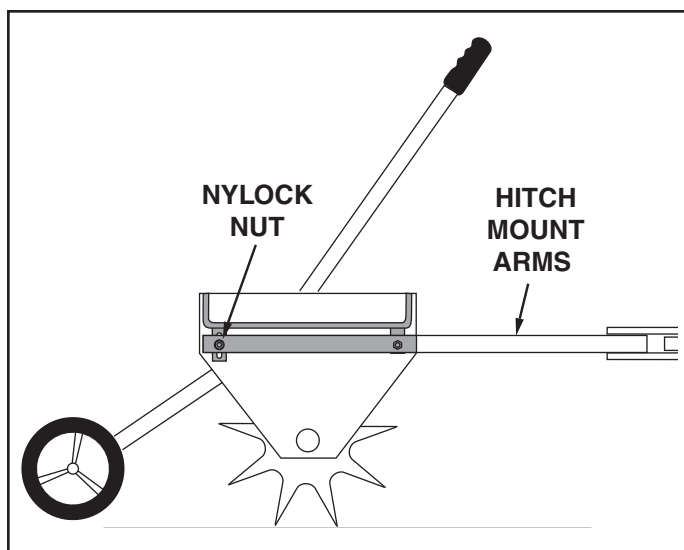

FIGURE 8
1. To level the spike tray after the aerator is attached to the tractor hitch, loosen the nylock nuts holding the hitch mount arms to the brackets at the rear of the tray. Make the tray as level as possible and then retighten the nuts. See figure 8.